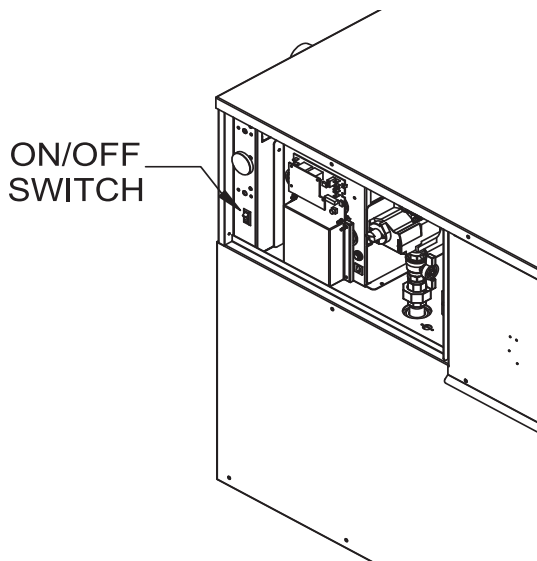

Figure 32 - ON/OFF Switch
5. Locate the ON/OFF switch inside the control area. The switch is located to the left of the control panel (see Figure 32).